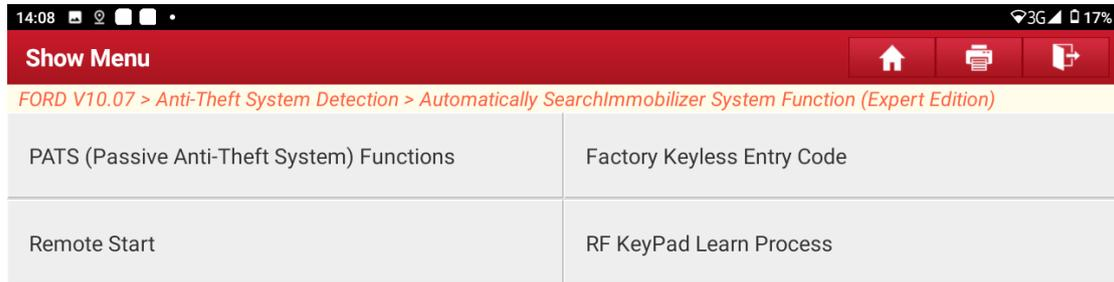

Figure A7
5. Choose [PATS (Passive Anti-Theft System) Functions]. See Figure A7.